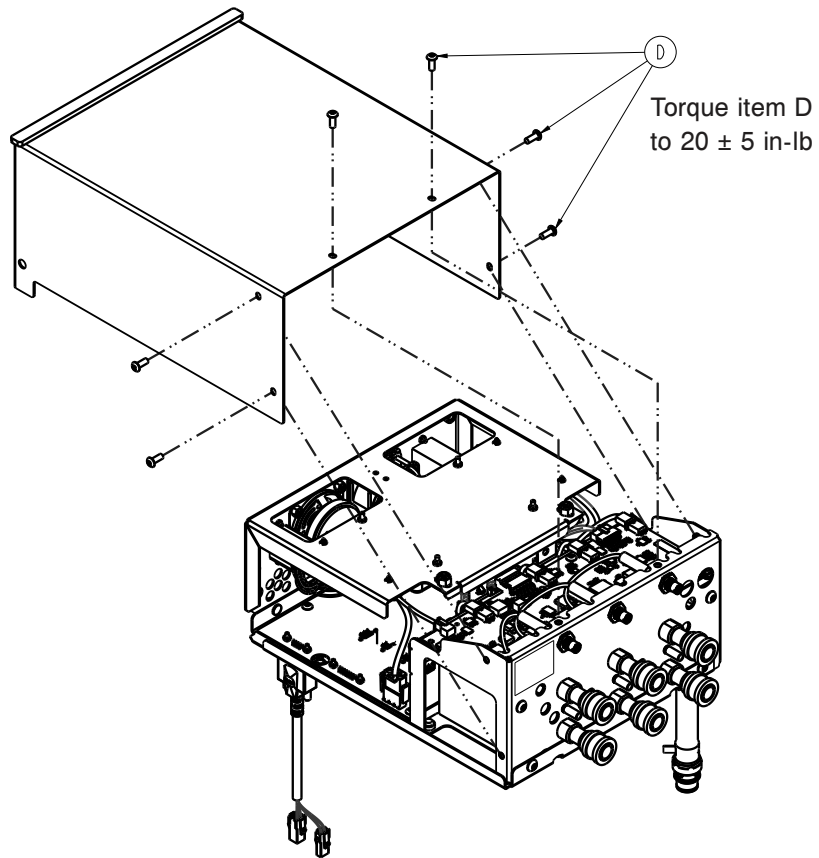

Figure 36: Control box cover
15. Using a T25 torx, remove the 6 screws (D) that secure the control box cover (Figure 36 on page 51).